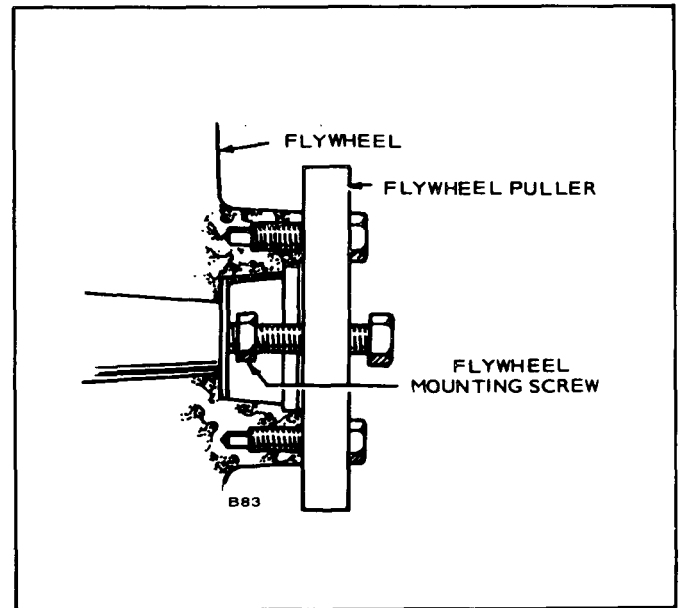

FIGURE 3. FLYWHEEL PULLER
2. Install a puller bar (Onan No. 420-0100) on the flywheel as shown in Figure 3.